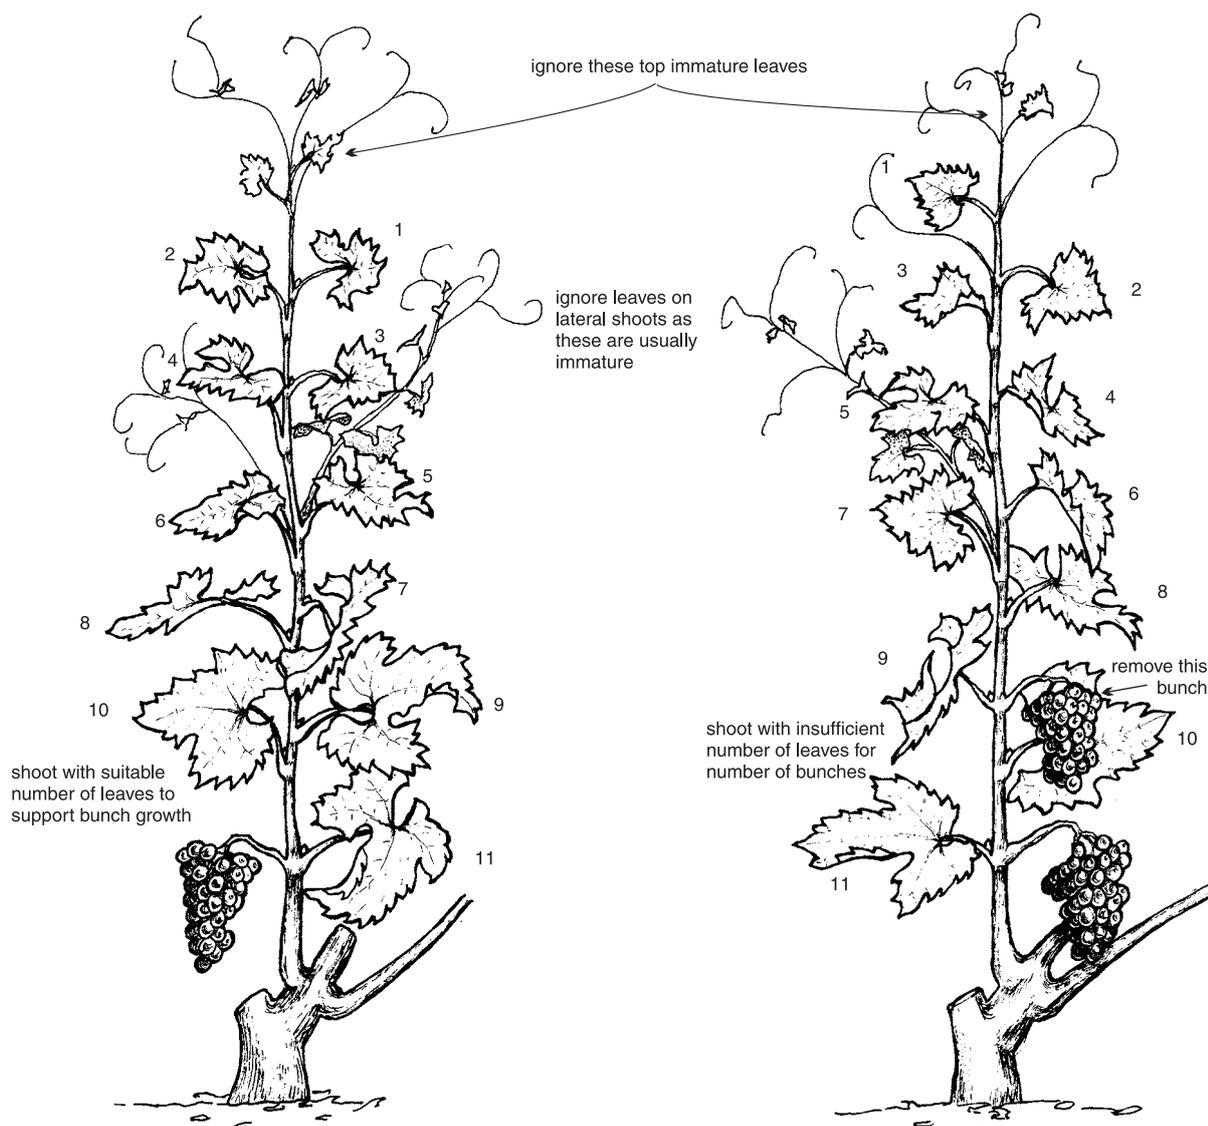

Figure 31. Removal of bunches at fruit set to prevent overcropping
- If there are less than 10 leaves above the last bunch on a shoot, remove one or more bunches. Remove bunches further up the shoot first, leaving bunches closer to the base of shoots. Lower bunches are of better size and quality (Figure 31).